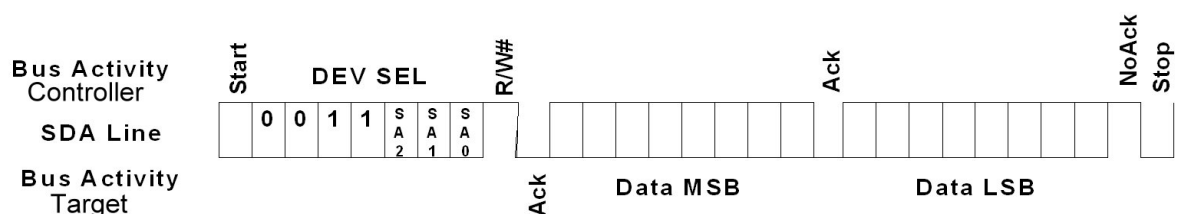
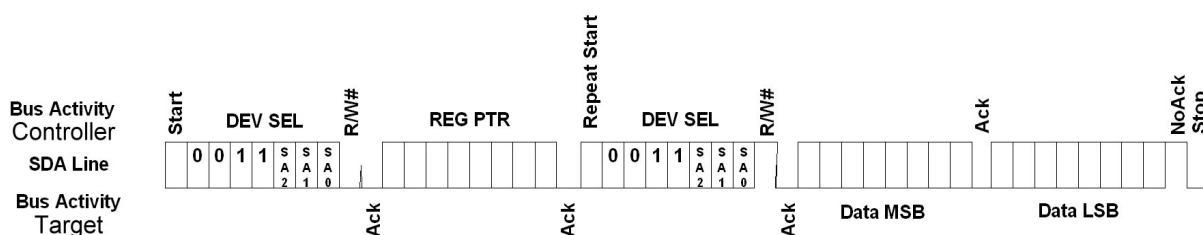

Figure 12 — I2C Bus Preset Pointer Register Word Read
Figure 13 — I2C Bus Pointer Write Register Word Read
2. The pointer register is loaded with the correct register address, and the data is read. The sequence to preset the pointer register is shown in Figure 12, and the preset pointer read is shown in Figure 13. If it is desired to read random address each cycle, the complete Pointer Write, Word Read sequence is shown in Figure 14.